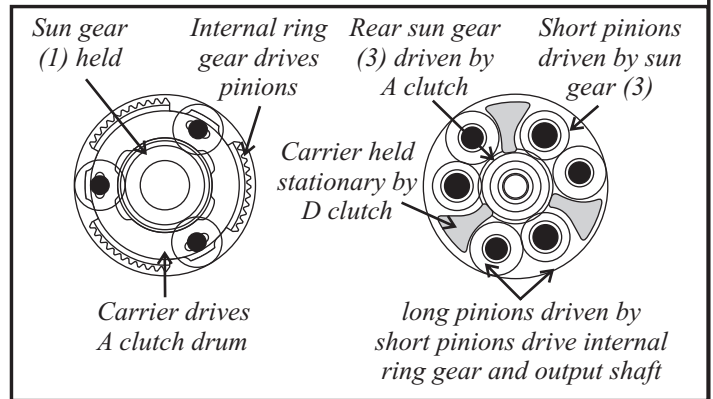

Figure 8
**Powerflow in first gear:** The A clutch is applied and is driven in a reduction through the front planetary assembly via the turbine shaft. The A clutch in turn inputs torque to the small rear (#3) sun gear. The D clutch is also applied holding the double planetary output carrier stationary. This causes the small rear (#3) sun gear to drive the short pinions, the short pinions drive the long pinions and the long pinions drive the internal ring gear and output shaft in an approximate reduction ratio of 4.171:1 (Figure 8).